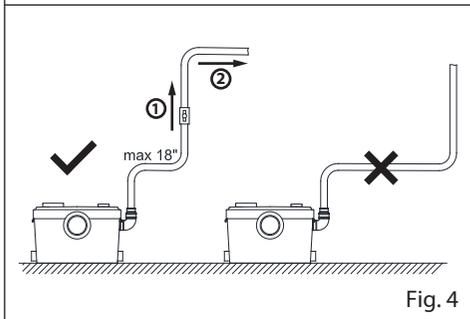

Fig. 4
- c. Any initial horizontal pipe run from the unit, prior to the vertical lift, should not exceed 18 inches.(Fig 4)